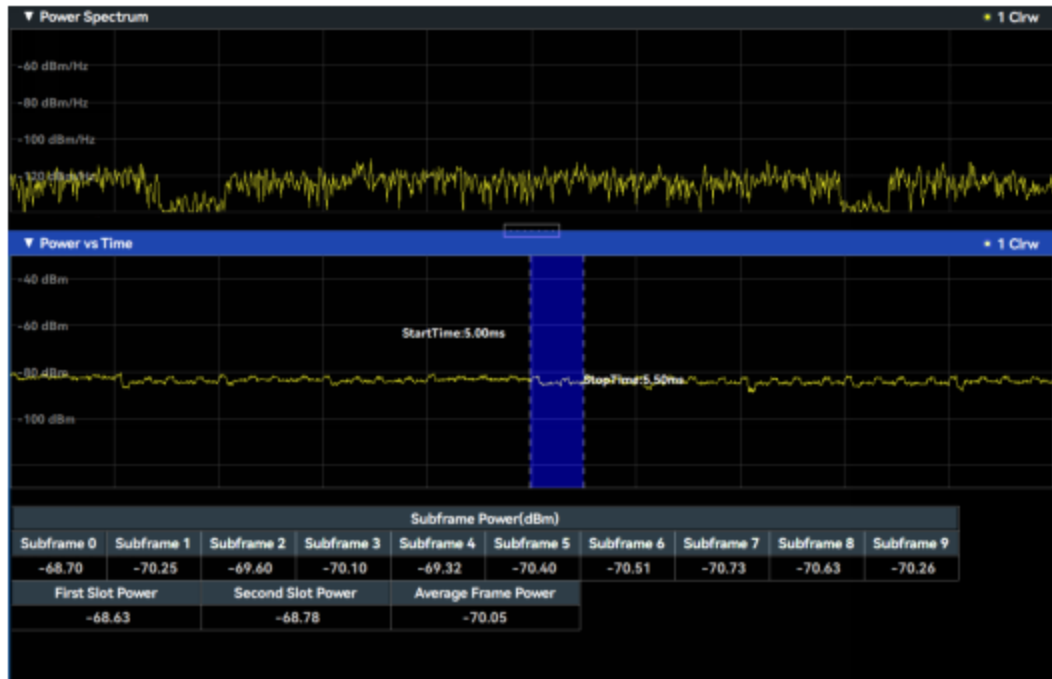

Figure 8.19 LTE Time-domain power test results
Step 6. Observation results: As shown in Figure 8.19: